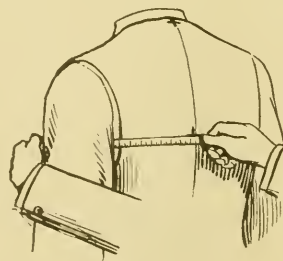

FIG. 8
13. **The Blade Measure.**—Place the tape-line under the arm, and from the cross-mark in front, measure under the arm in a straight line over the blade to the center of the back. (See Fig. 8.) This is called the Blade measure, and should be  $12\frac{1}{2}$  inches in this case; this will include  $1\frac{1}{4}$  inches, the width of the square from in front of the arm, which also will allow for five seams for making up.